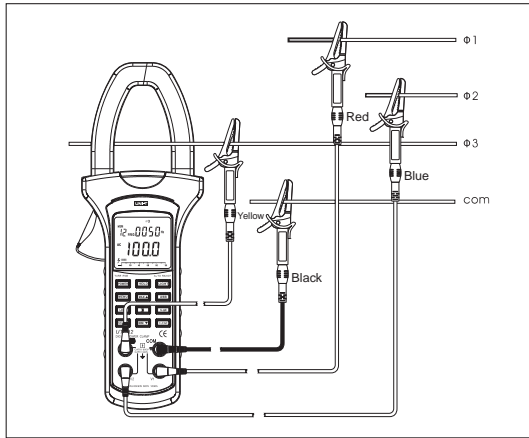

Figure 6
3. Connecting method (see figure 6, 7, 8):
- When measuring 3 phase 4 wires, connect the Meter as figure 6
3. The connecting method of 3 phases 4 wires, 3 phases 3 wires or single phase 2 wires, see figure 6, 7 and 8